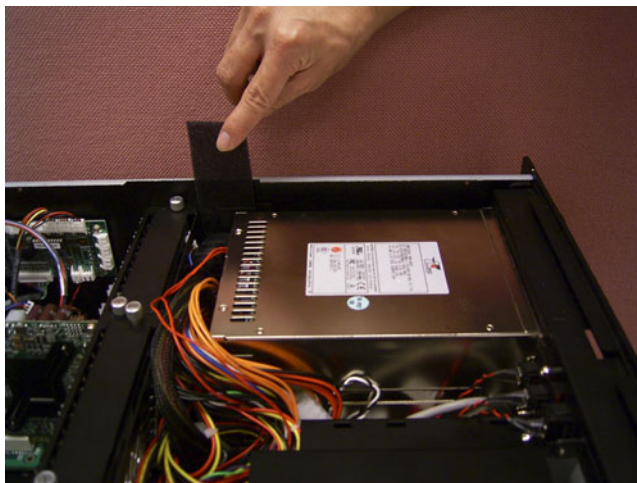

Figure 3.11: Replacing the side filter
2. Find the filter cover on the right side plate and simply take out the filter. (See Figure 3.11).